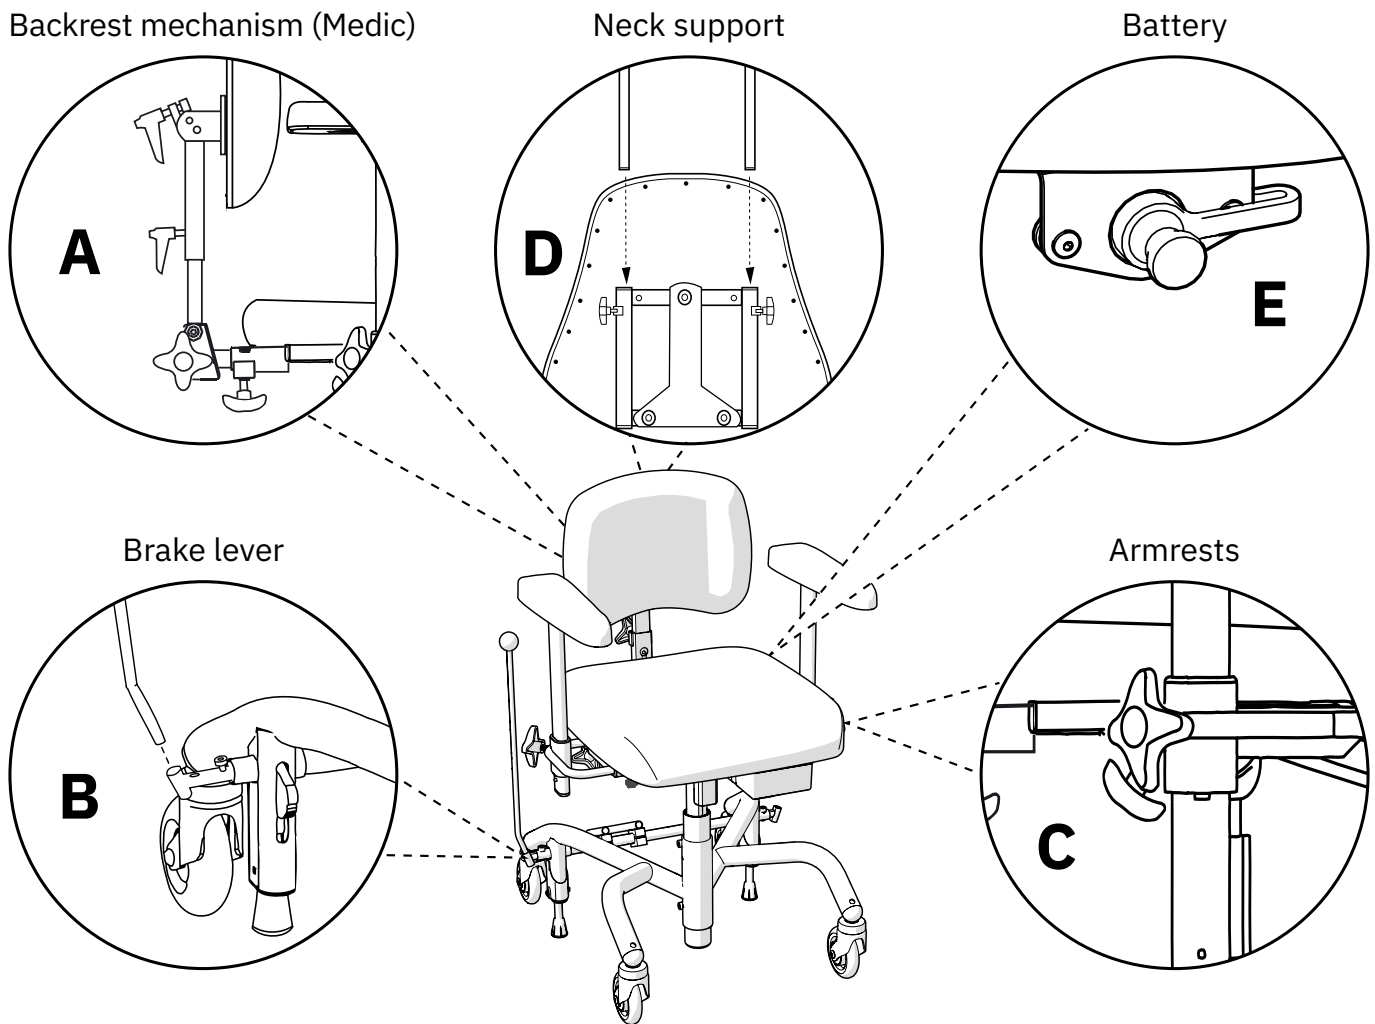

Figure 2.1. Preparations before the device is put into use.
Place the back rest support post in the back rest mechanism (B) and set the desired height level, see Figure 2.1. Tighten all levers (A). The image shows one of several back mechanisms available for Mercado Medic devices. For adjusting back supports and backrest mechanisms, see 5.6. Backrest mechanism and back support.
We recommend that the brake lever not be mounted if you intend to use the foot brake. If you intend to use the handbrake function, mount the brake lever as follows: Insert the brake lever into the brake lever bracket (A), see Figure 2.1. The brake lever can be placed on the right or left side.
Loosen the armrest controls (C) and set the desired height and width levels, see Figure 2.1. Tighten all controls (C). If the product is supplied with foldable armrests, check that the knob clicks into the locking position when the armrest is lowered. If the knob does not click in position, rotate the knob until it clicks firmly.
If the device is supplied with a neck support, insert the neck support mechanism into the backrest bracket (D) and set the desired height level, see Figure 2.1. Tighten all controls (D).
Before initial use, activate and charge the battery. This is done by connecting the battery charger to the device's charging socket and to a wall outlet (E), see Figure 2.1. The charging socket can be placed in different places on the device. The device is usually delivered with the charging socket mounted at the rear edge under the seat.